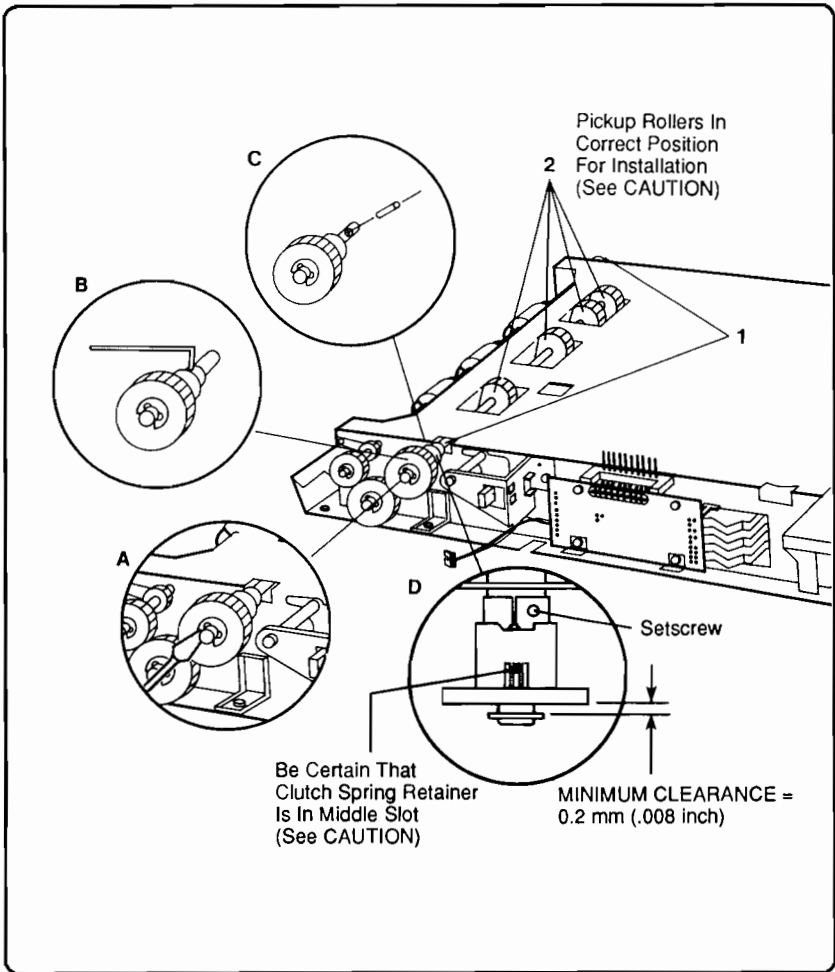

Figure 6-10. LC Pick-Up Roller Removal
4. Remove the E-clips on each end of the LC Pick-Up Roller Assembly (see Figure 6-10, detail A).
5. Being careful not to lose the alignment pin, use a 1.5 mm Allen Wrench to loosen the set screw (3 to 4 turns) that secures the Clutch Assembly. Remove the assembly (Figure 6-10, detail B).
6. Remove the retainer pin (see Figure 6-10, detail C) and both brass bushings (see callout 1).
- When installing the Clutch Assembly, ensure that the pick-up rollers are protruding above the base and are locked into position by the clutch solenoid SL2 as shown in Figure 6-10, callout 2. **Improper installation causes paper jams.**
- The Clutch Assembly contains an inner coil spring which must be retained in the **middle slot** on the gear body (see Figure 6-10, detail D).
- To prevent clutch binding, ensure at least 0.2 mm (0.008 inch) gap before tightening the set screw (see Figure 6-10, detail D).
4. Remove the LC Pick-up Roller's right E-clip, Clutch Assembly, and retainer pin (see Figure 6-10, details A, B and C).